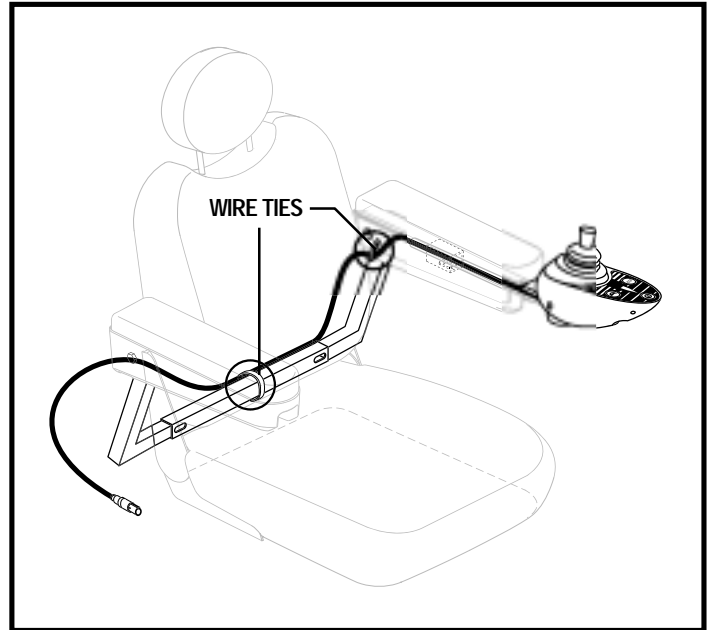

Figure 13. Controller Cable Routing on a Contour Seat
8. Secure the controller cable to the armrest receiver with wire ties (contour seats only). See figure 13.